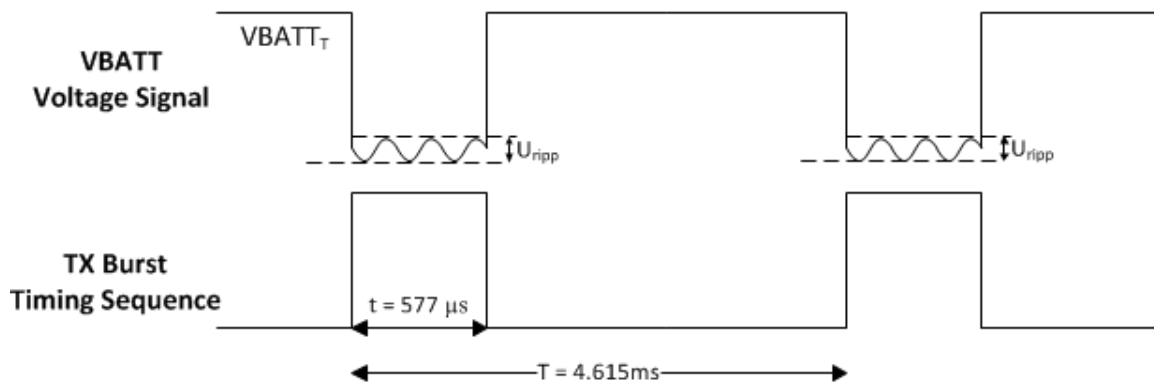

Figure 2. Power Supply During Burst Emission
- GSM/GPRS class 2 terminals emit 577 μ s radio bursts every 4.615ms (see Figure 2 Power Supply During Burst Emission)